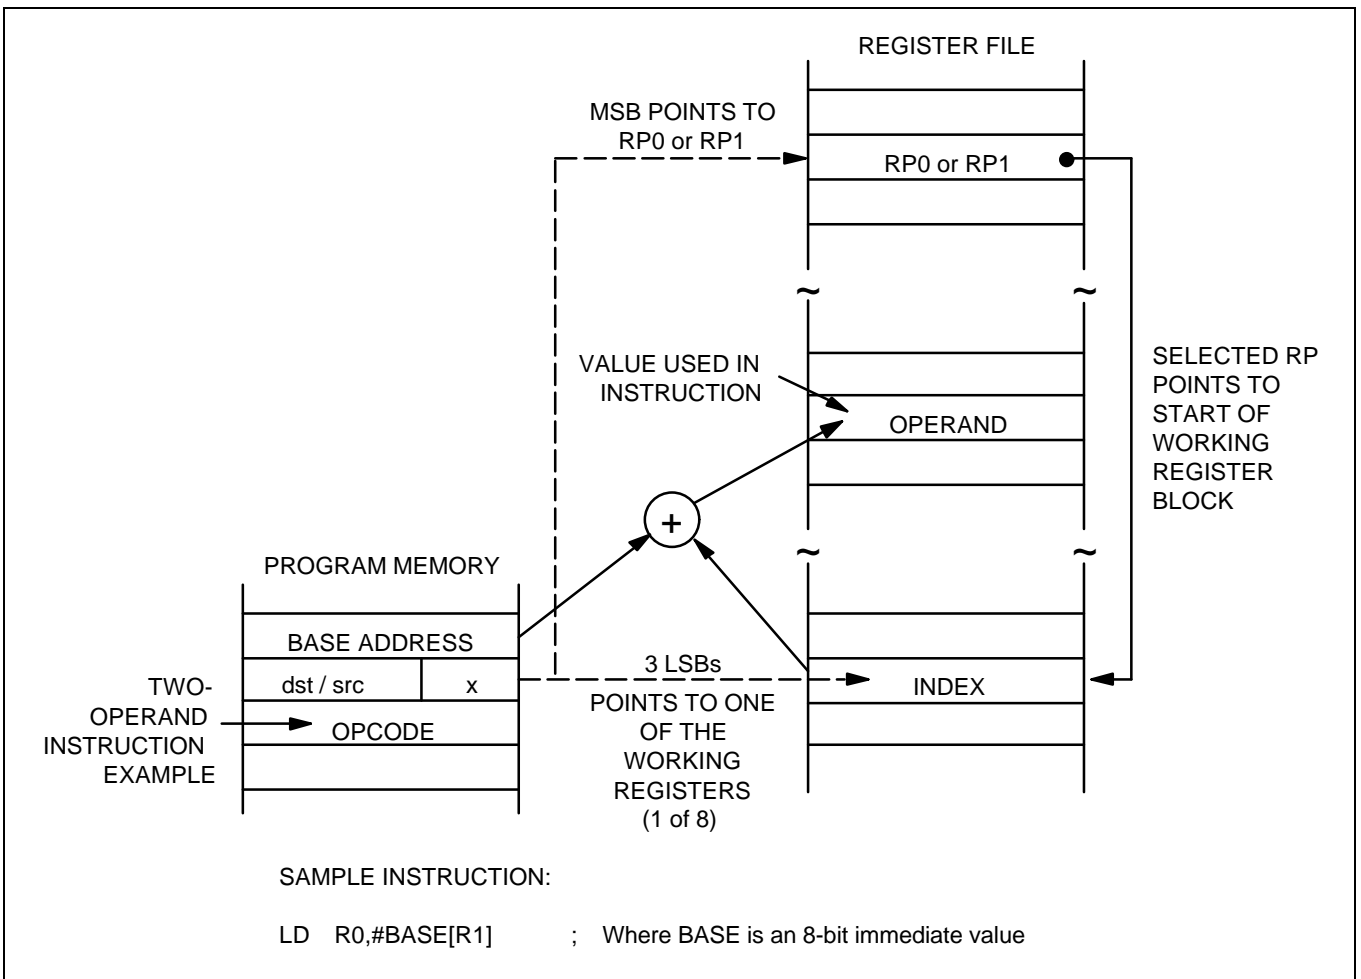

Figure 3-7. Indexed Addressing to Register File
Indexed (X) addressing mode adds an offset value to a base address during an instruction execution in order to calculate the effective operand address (see Figure 3-7). You can use Indexed addressing mode to access locations in the internal register file or in external memory (if implemented). You cannot, however, access the locations, C0H–FFH, in set 1 in Indexed addressing mode.